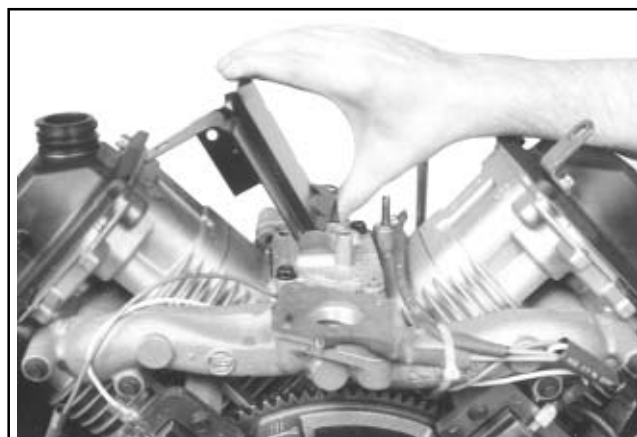

Figure 9-35. Removing Inner Baffles.
2. Remove both inner baffles. See Figure 9-35.
3. Remove the two remaining screws holding the breather cover to the crankcase. See Figure 9-35.